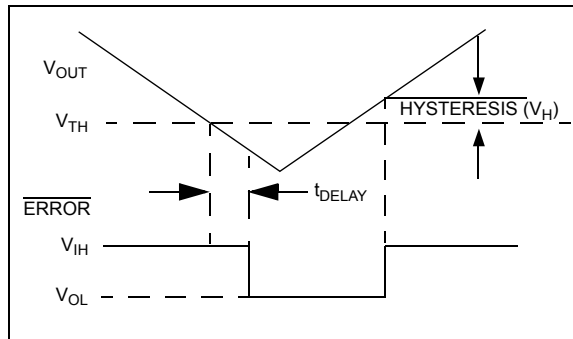

FIGURE 4-2: Error Output Operation.
| V_{TH} | $\overline{\text{ERROR}}$ Threshold Voltage | — | $0.95 \times V_R$ | — | V | See Figure 4-2 |
\overline{ERROR} is driven low whenever V_{OUT} falls out of regulation by more than -5% (typical). This condition may be caused by low input voltage, output current limiting, or thermal limiting. The \overline{ERROR} output voltage value (e.g. $\overline{ERROR} = V_{OL}$ at 4.75V (typical) for a 5.0V regulator and 2.85V (typical) for a 3.0V regulator). \overline{ERROR} output operation is shown in Figure 4-2.
- Changed Figure 4-2.